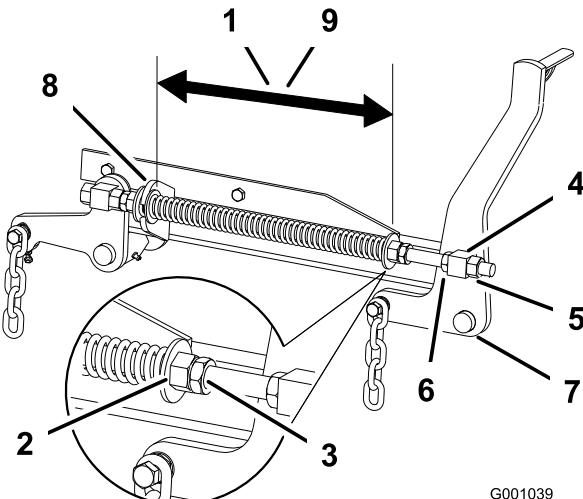

Figure 79
2. Check the distance between the two large washers, it needs to be 10-1/2 inches (26.7 cm) for 60 inch mower decks or 11-1/2 inches (29.2 cm) for 72 inch mower decks (Figure 79).
3. Adjust this distance, by loosening the spring jam nut and turning the nut in front of each spring (Figure 79). Turning the nut clockwise will shorten the spring; counter-clockwise will lengthen the spring.
4. Lock the nut into position by tightening the spring jam nut (Figure 79).